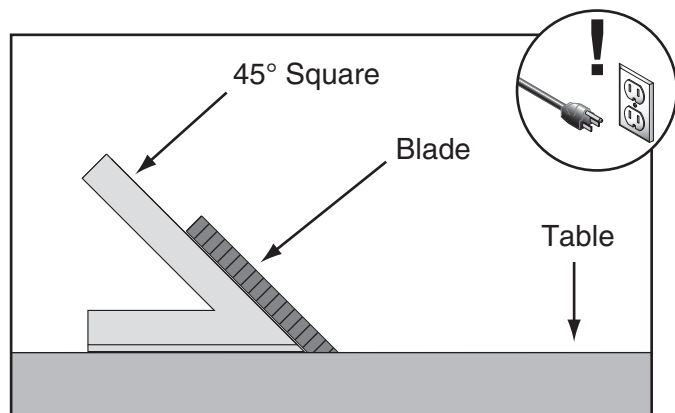

Figure 106. Checking blade at 45°.
3. Place a 45° square against table and blade so it contacts blade evenly from bottom to top, as shown in **Figure 106**. Make sure a blade tooth does not obstruct placement of square.